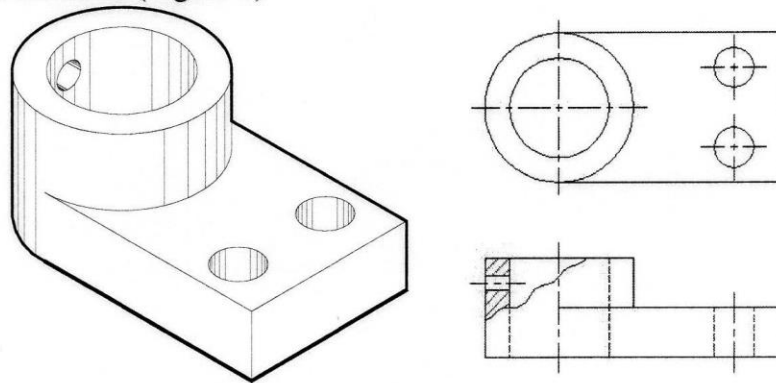

Figure 5. Broken-Out Section.
3. **Broken-out Sections (Figure 5).**